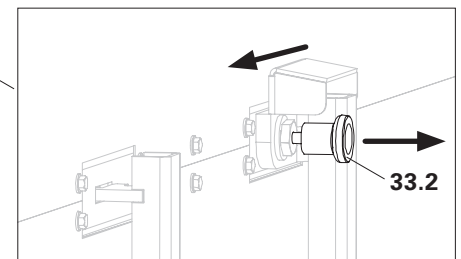

Fig. D2.02
2. Dismantle the switch cabinet (33). Remove adjustment bolts (33.2) and push the switch cabinet to the left. (Fig. D2.02)